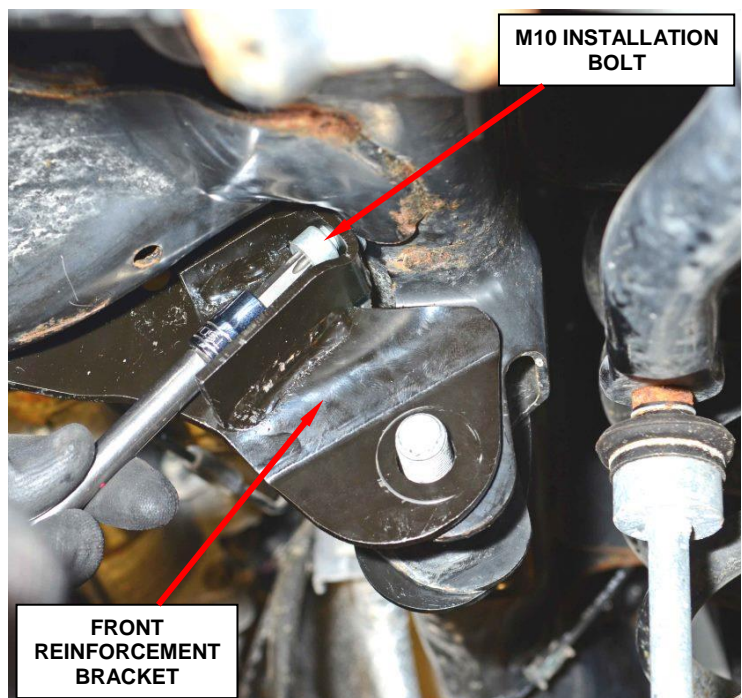

Figure 15 – Crimp Riv-Nut with M10 Installation Bolt
20. Tighten the M10 installation bolt on the riv-nut to 27 ft. lbs. (37 N·m) to crimp the riv-nut (Figure 15).